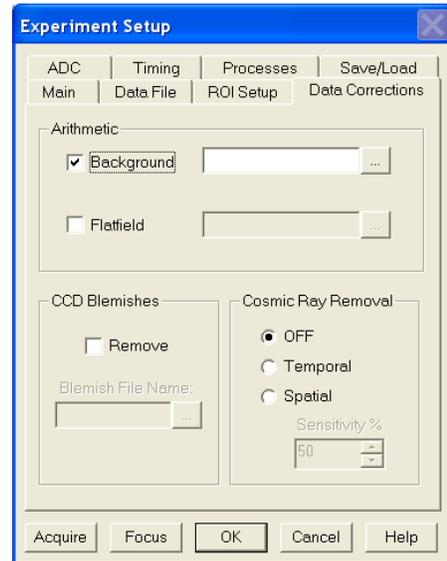

Figure 23. Data Corrections tab
4. On the **Data Corrections** tab (Figure 23) all of the correction functions should be OFF.